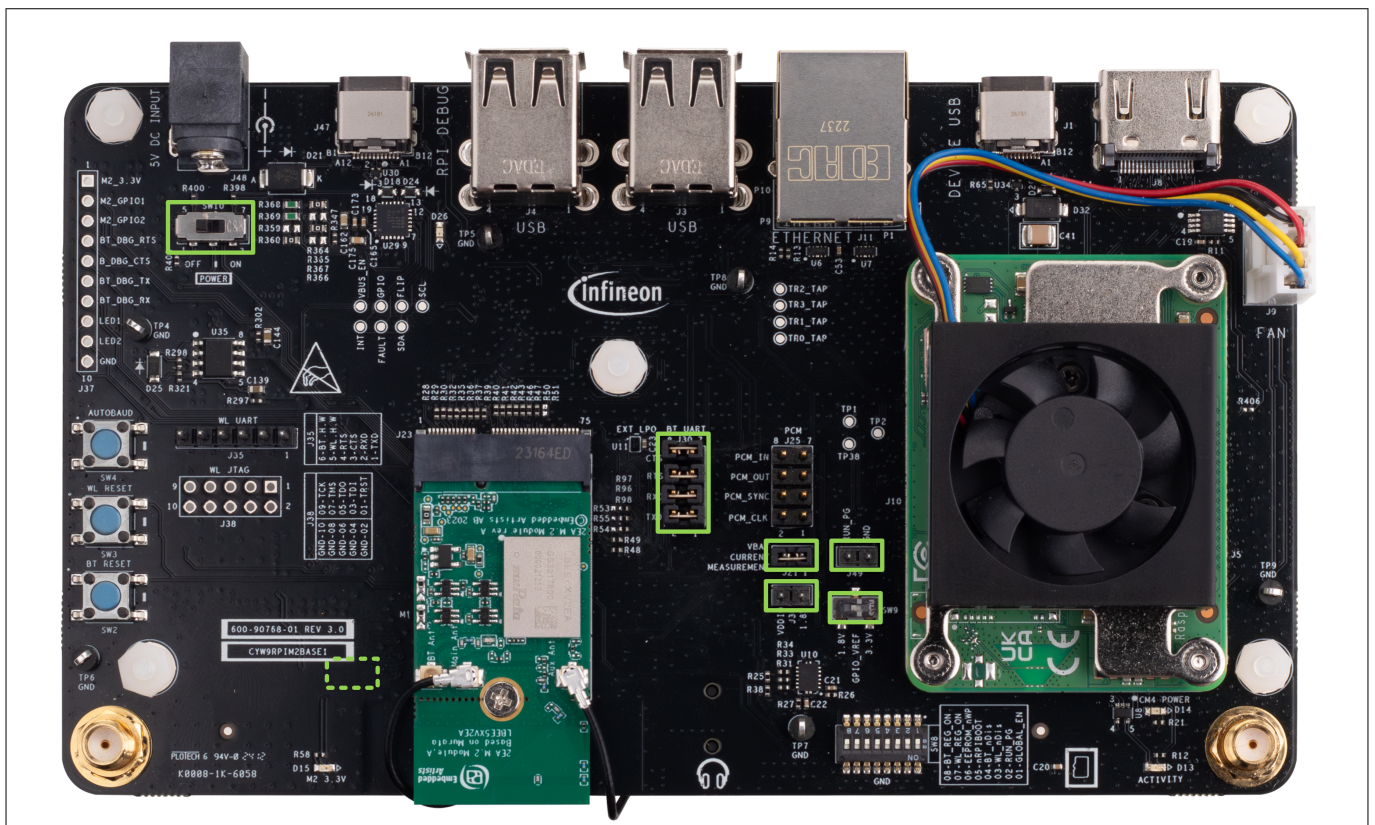

Figure 2 CYW9RPIWIFIBT-EVK default jumper and switch setting
Before connecting the kit to the PC, ensure that all jumpers and switches on the baseboard are in their default configuration as shown in Figure 2 and specified in Table 4 to Table 8.
3. Ensure that the jumper and switch settings on the board are configured as shown in Figure 2 and specified in Table 3 to Table 8
2. Ensure that the jumper and switch settings on the board are configured as shown in Figure 2 and specified in Table 3 to Table 8